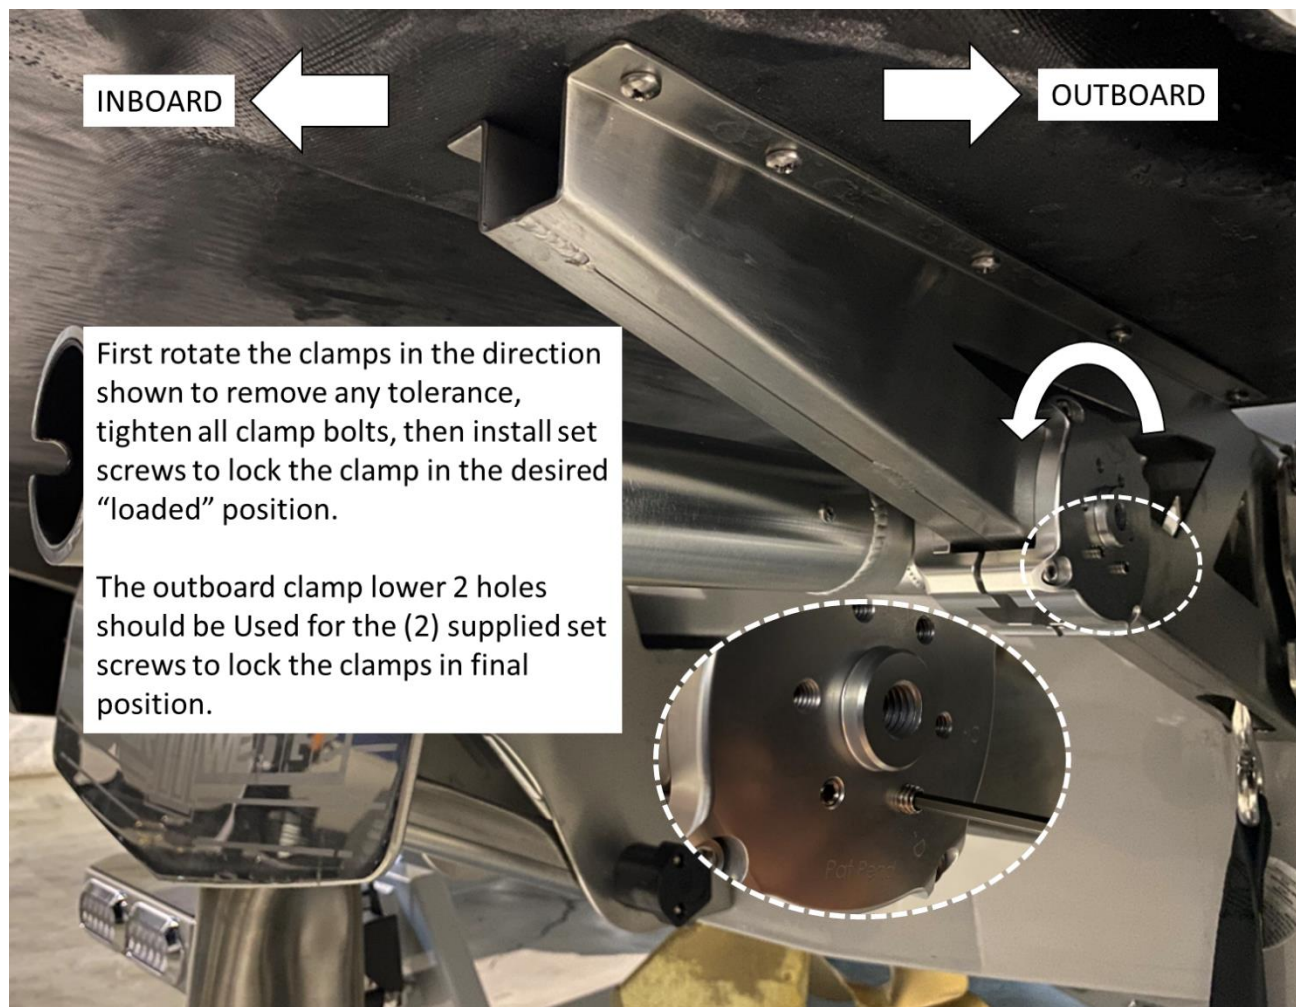

Figure 9 (Set Screw installation)
Step 5: After installation is complete, install 2 set screws in the lower 2 holes of the outboard clamp shown in figure 9. Tighten set screws against the swim platform bracket to prevent any vertical movement during use.